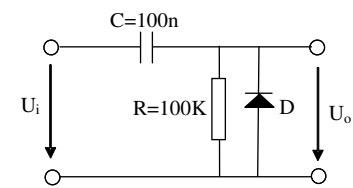

Fig. 3b: parallel peak detector
c) Repeat the observations and measurements from a) on the circuit in fig. 3b (parallel peak detector). Use the same signal as for a), of amplitude 5V, null DC component.